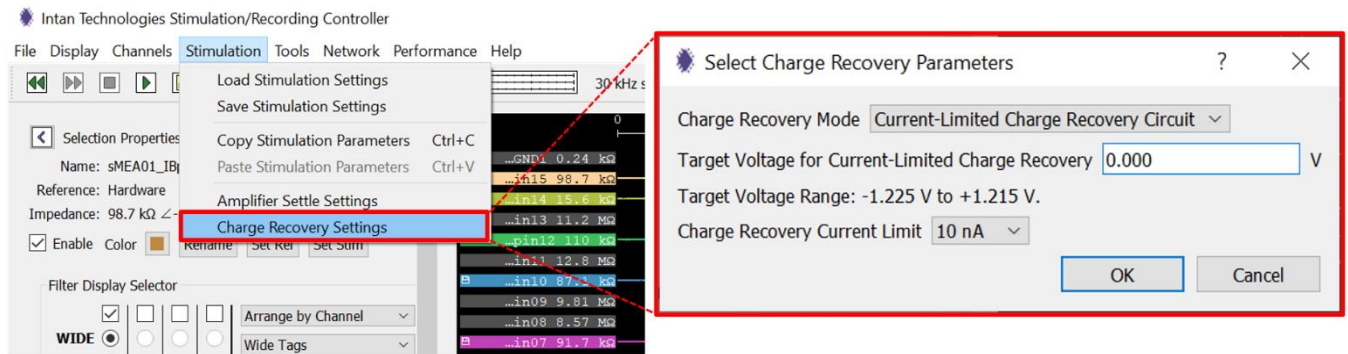

Fig. 82: Accessing the “Select Charge Recovery Parameters” window.
- 10) There are two types of charge recovery that may be selected globally for all channels in all headstages. This selection is accessed in the charge recovery configuration window (**Fig. 82**) by selecting “Charge Recovery Settings” under the Stimulation menu.